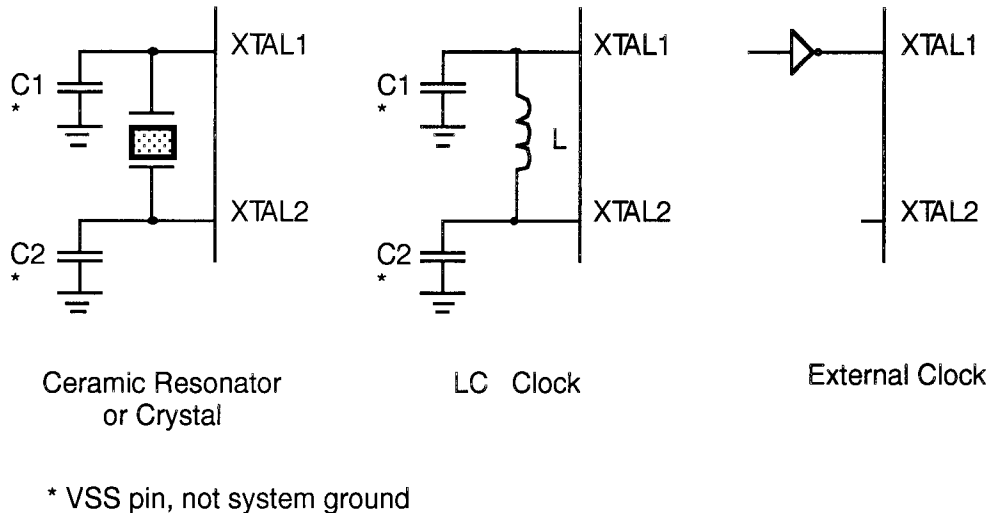

Figure 17. Oscillator Configuration
Clock. The Z86E23 on-chip oscillator has a parallel-resonant amplifier for connection to a crystal, LC, ceramic resonator, or any suitable external clock source (XTAL1=Input, XTAL2=Output). The crystal should be AT cut, 4 MHz max; series resistance (RS) is less than or equal to 100 ohms. The crystal should be connected across XTAL1 and XTAL2 using the recommended capacitors ($10\text{ pF} < CL < 150\text{ pF}$) from each pin to ground (Figure 17).